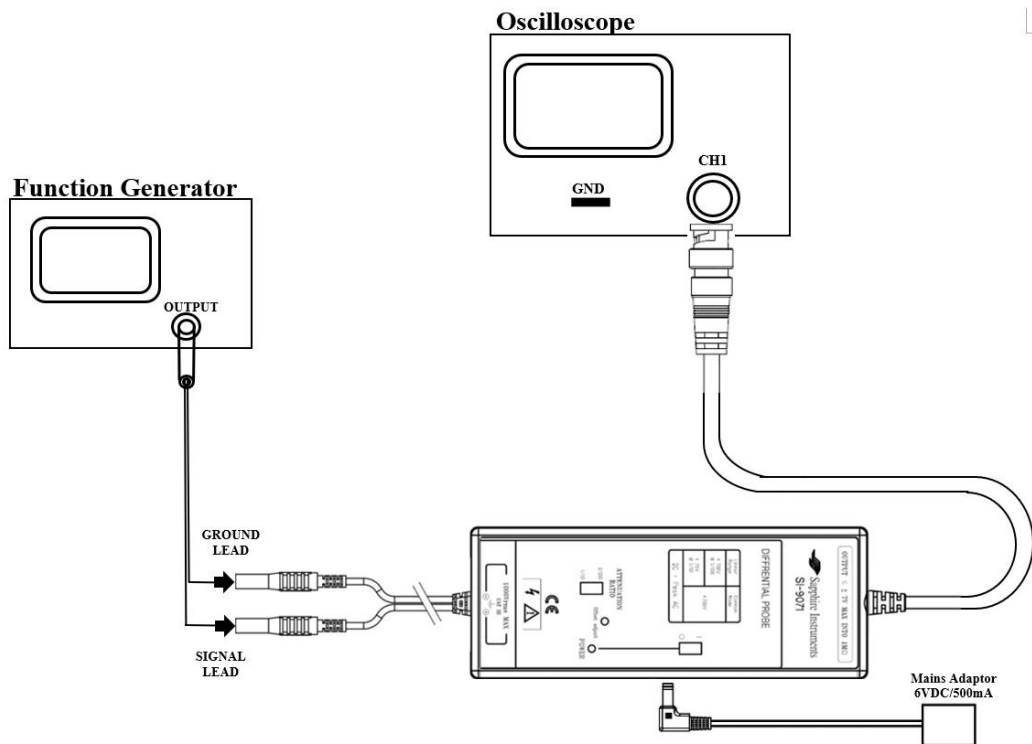

Fig. 9
- a. Referring to Fig. 9, connect output BNC to the oscilloscope which has good grounding.